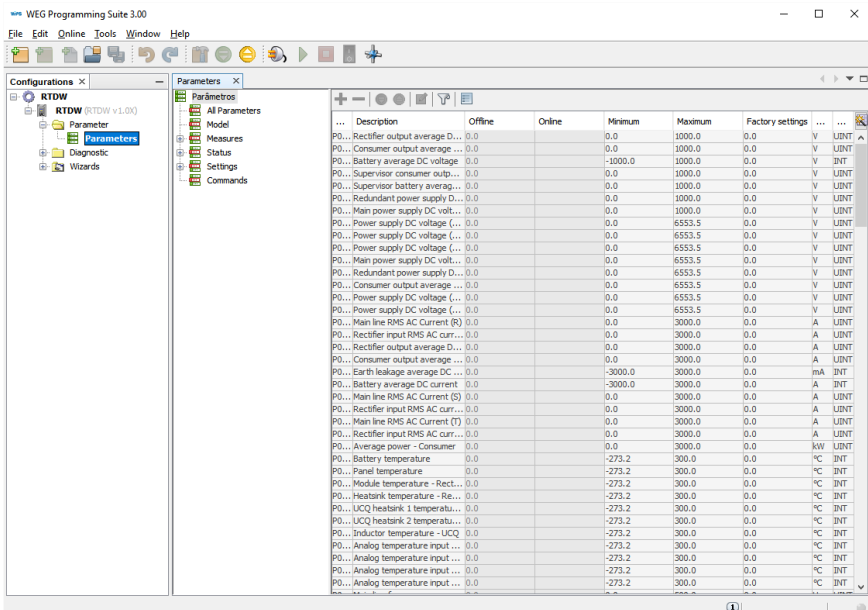

Figure 6.42: Parameter table
- By double-clicking on "Parameters", see the parameter table available for monitoring the RTDW, as shown in Figure 6.42 on page 6-48.